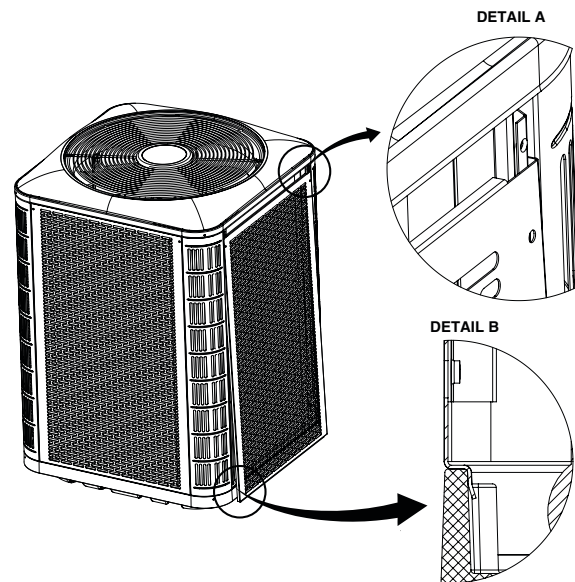

Figure 3. Panel Installation
1. Insert the top corners of side panel flanges into the corner post channels as shown in Detail A in Figure 3.